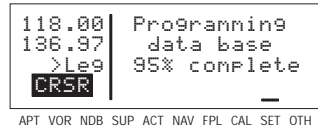

Figure 2-5
- Press **ENT** to acknowledge the estimated load time and begin erasing the existing data base. The unit will now display **Erasing data base**. After the data base has been erased, the loading of the new data automatically begins. As the new data is being loaded, the percentage of transfer is displayed (figure 2-5).